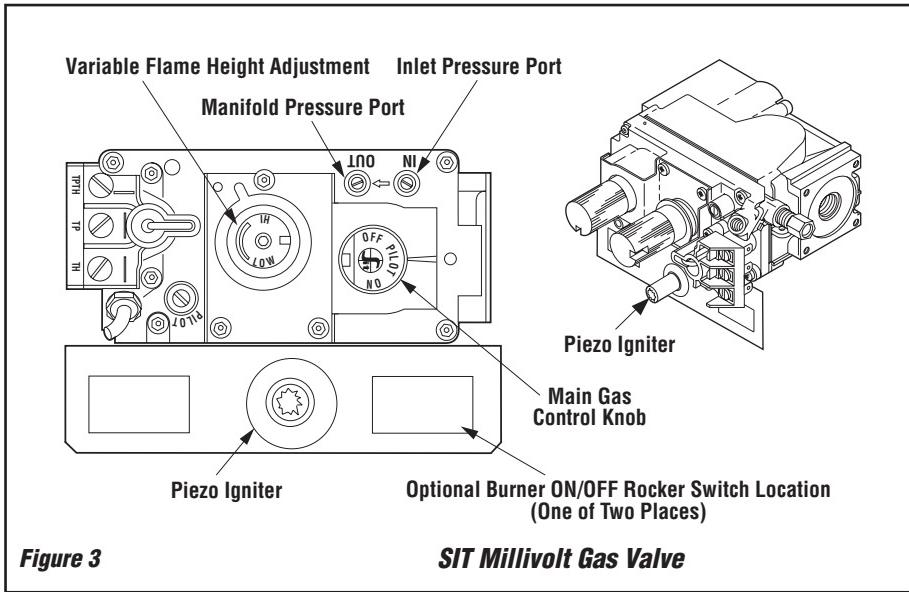

Figure 3
Millivolt appliances will be fitted with the gas control valve shown in **Figure 3 on Page 5**.
To light millivolt appliances refer to the detailed lighting instructions found on **Page 20 (English)** and **Page 21 (French)**. **Millivolt appliance lighting instructions may also be found on the pull-out lighting instruction labels attached to the gas control valve.** Refer to **Figure 3 on Page 5** for the location of the piezo Igniter.
1. All Millivolt appliances are equipped with a variable gas control valve. Flame height for these models may be adjusted through a range between fixed low and high settings, alternately, while the appliance is in operation. Adjust the flame height as desired after lighting the appliance by rotating the variable adjustment control knob located on the front of the valve (**refer to Figure 3**).